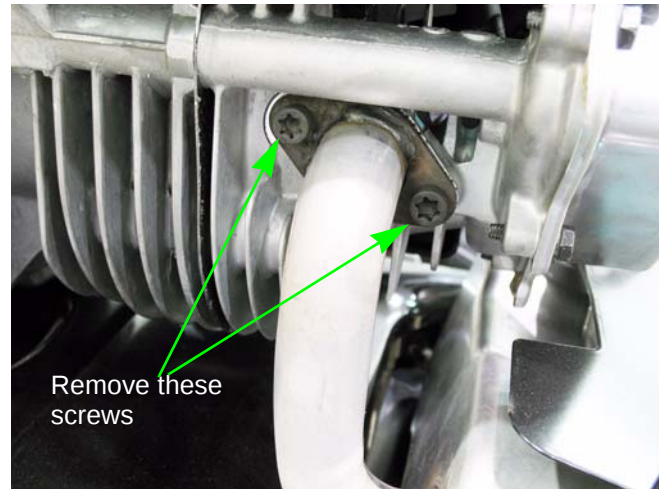

Figure 2.2
- Remove the two screws that secure the exhaust pipe to the cylinder head. See Figure 2.2.
- Remove the screw that fastens the muffler support bracket to the cylinder head. See Figure 2.2.